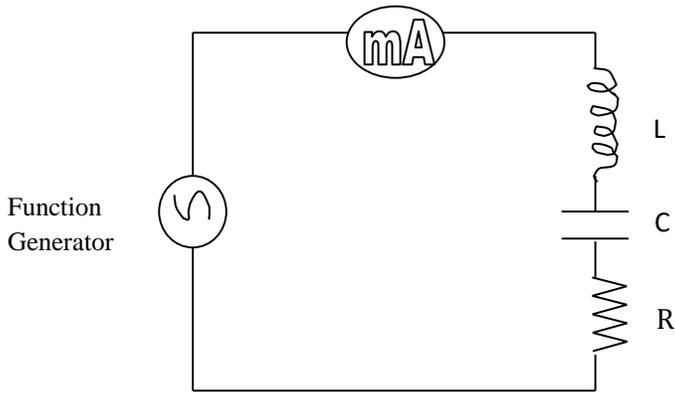

Figure 5.1
1. The circuit connections are made as shown in Fig. 5.1.